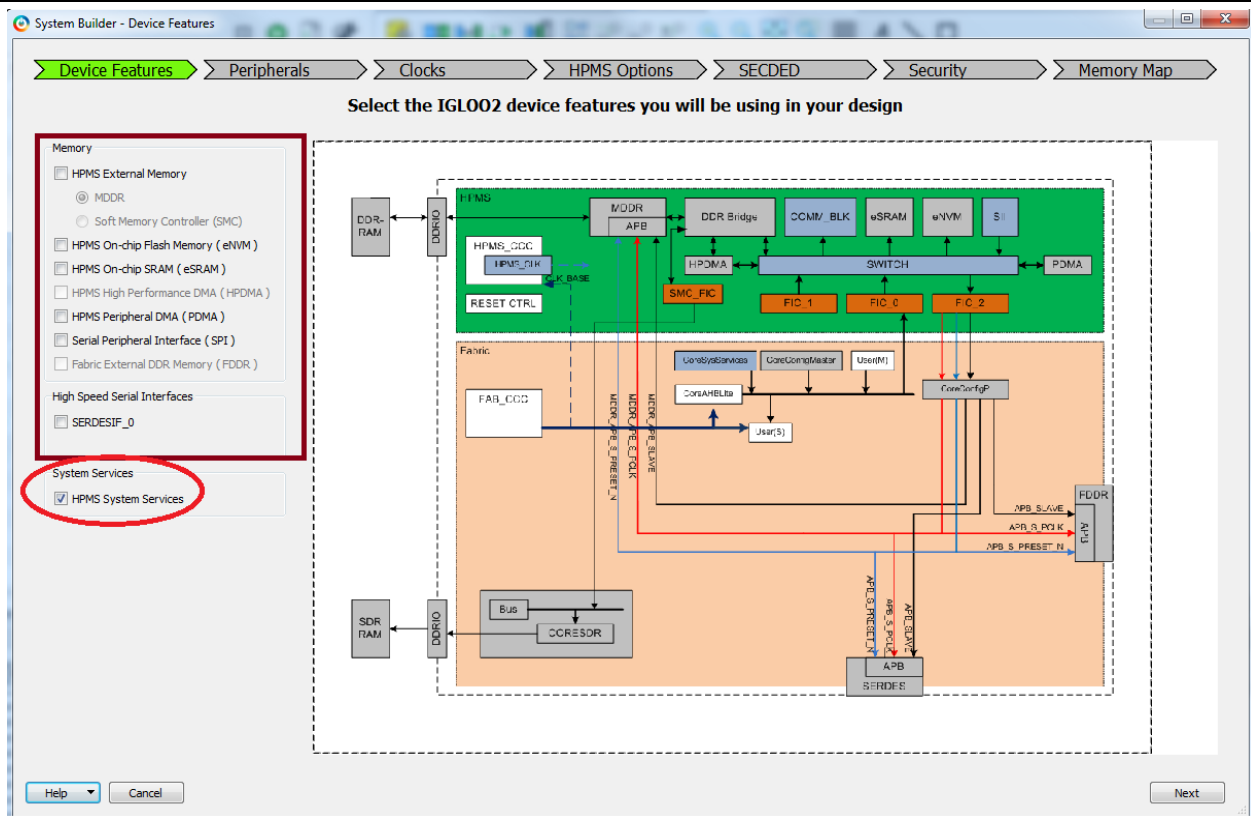

Figure 5 System Builder – Device Features
7. In the **System Builder – Device Features** tab, select the **HPMS System Services** check box under **System Services**, as shown in **Figure 5**.